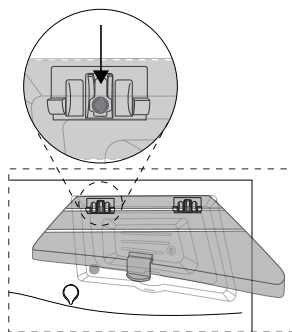

Figure 12.1g
- Pull on the lid, slightly, to release it from the locking bolt, Figure 12.1g.
- You need to align the locking bolt with the release slot in order to remove the lid, Figure 12.1g.